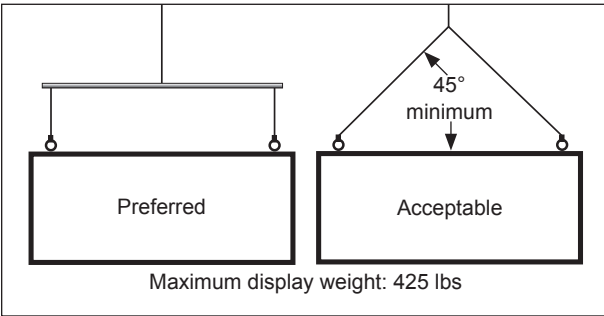

Figure 4: Lifting Display
- 3. Lift the display sections from the shipping crate using every lifting point provided. Refer to **Figure 4** and the DD1944253 RTX Shipping Frame Instructions for details. The sections may tip forward when lifting. *Do not set the sections on the ground.*